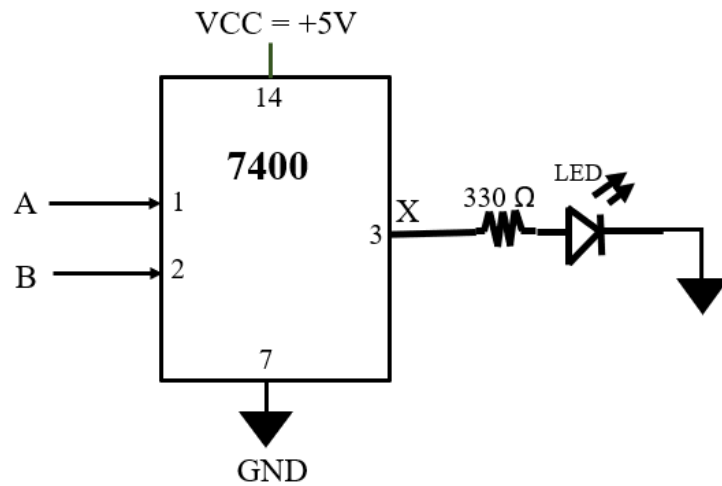

Figure 1. Breadboard connection diagram for NAND
- a) Find the pin diagram for the 7400 IC (pin diagram has been provided). Configure the breadboard according to Figure 1. Apply V_{cc} and ground to the appropriate pins (Connect pin 7 to ground (0V) and pin 14 to $V_{cc} = +5V$).